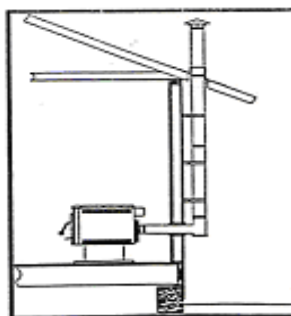

Figure 16
3. **Horizontal, out the wall, then vertical through the eaves and roof**, terminating with a rain cap. Figure 16